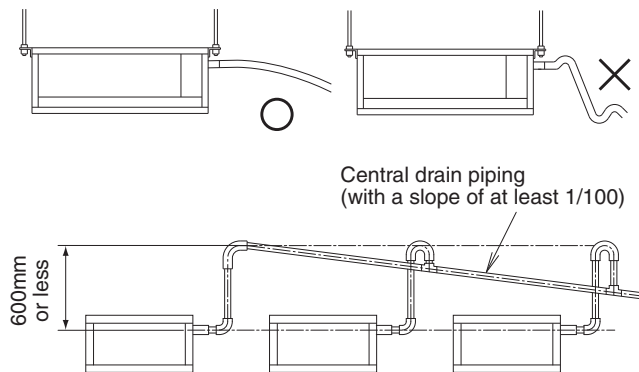

Fig. 10
- Keep the drain piping short and sloping downwards at a gradient of at least 1/100 to prevent air pockets from forming. (Refer to Fig. 10)
- Do not twist or bend the drain hose (2), so that excessive force is not applied to it. (This type of treatment may cause leaking.)
- If you are using central drain piping, follow the procedure outlined in the figure 10.